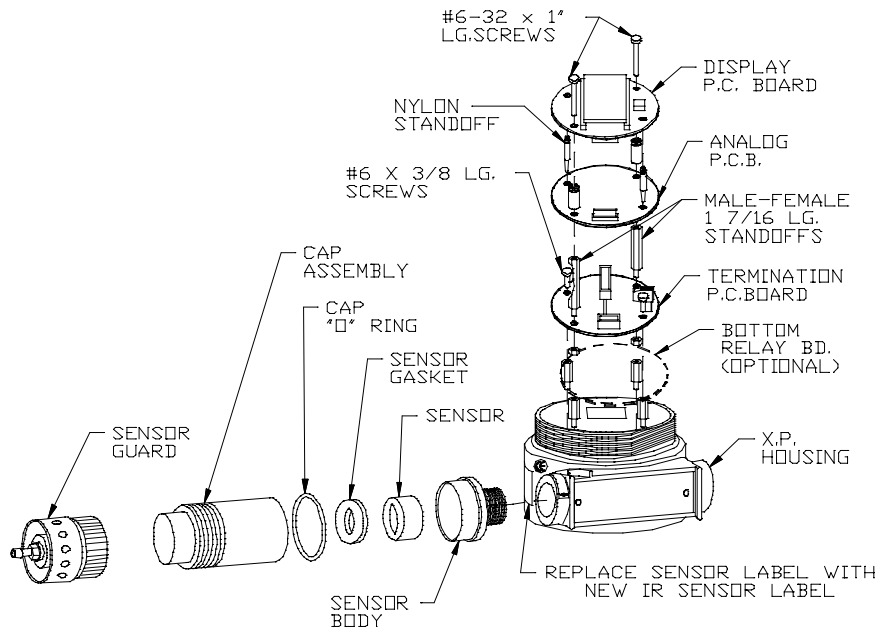

Figure 2. Exploded View
4. Remove the two #6-32 X 1 lg. screws attaching the Display (top) printed circuit board (FIGURE 2).
9. Using the new nylon standoffs, re-attach the Display board to the Analog/Network board (FIGURE 2).
- When tightening the sensor body to the enclosure, completely tighten threads into the enclosure to ensure a minimum five-thread engagement forms an explosion-proof fit (FIGURE 2).